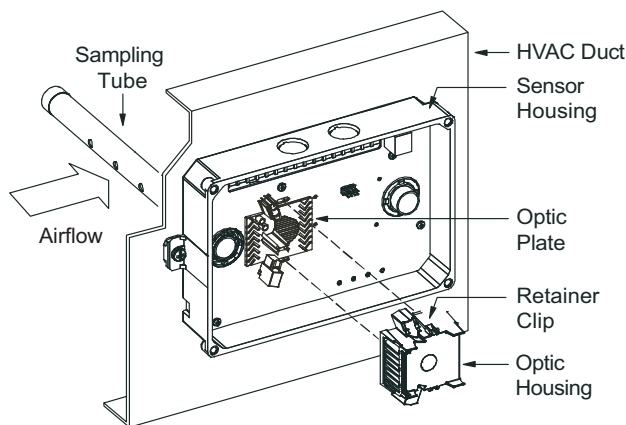

Fig. 50 — Sensor Cleaning Diagram
1. Disconnect power from the duct detector then remove the sensor's cover. See Fig. 50.